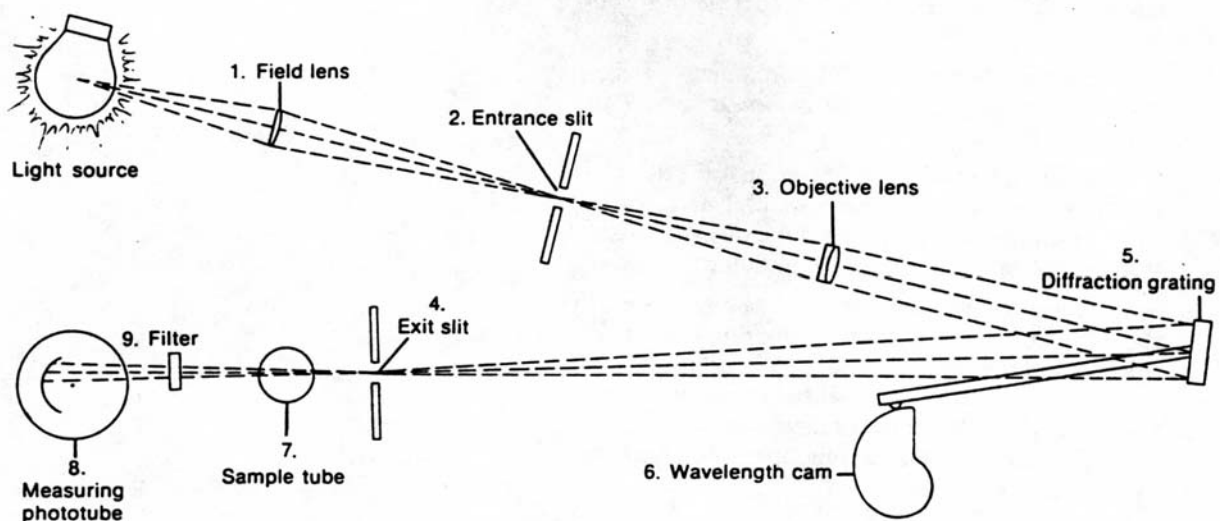

FIG. B-1. Optical system of the Spectronic 20 colorimeter.
The optical system is shown in Fig. B-1. White light is focused by a lens (1) onto an entrance slit (2), where it is collected by a second lens (3) and refocused on the exit slit (4) after being reflected and dispersed by a diffraction grating (5). Rota